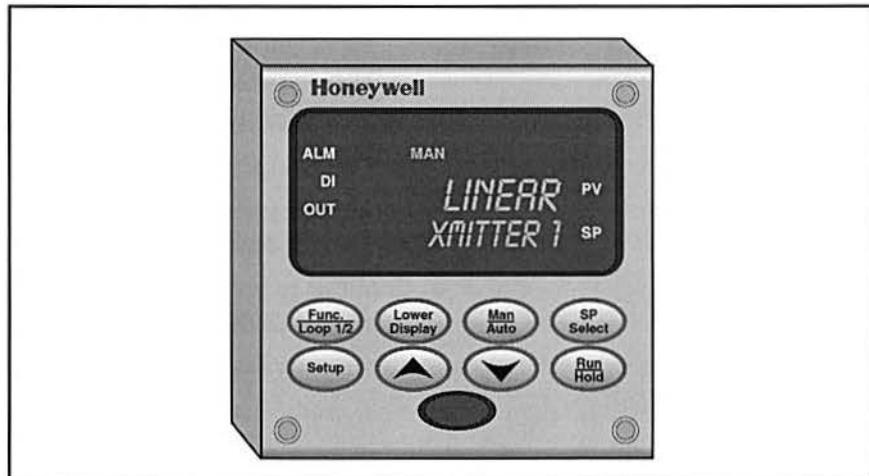

Figure 36. XMITTER Parameter Set to LINEAR
- E. Press the **Func Loop 1/2** key to move to the next parameter in the group, “XMITTER1,” as shown in figure 36.
This parameter describes the type of transmitter. It should be set to LINEAR, as also shown in figure 36. This indicates that the sensor output varies linearly with the input.